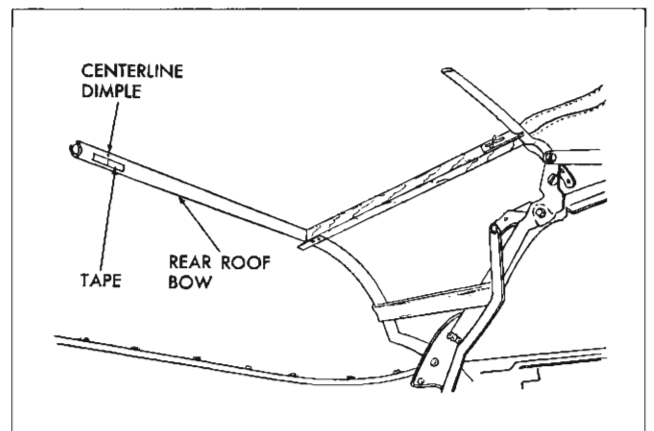

Fig. 21-31 Marking Rear Roof Bow
24. Along forward surface of rear roof bow install a 1" piece of tape at centerline dimple of rear roof bow. Using a pencil, mark centerline of rear bow on tape (Fig. 21-31).
NOTE: The deck seam mark will vary slightly ($\pm 1/4''$) depending upon position of rear roof bow. Also check centerline mark on inner lining of top material. Mark should correspond to centerline mark on rear roof bow (see Fig. 21-31).